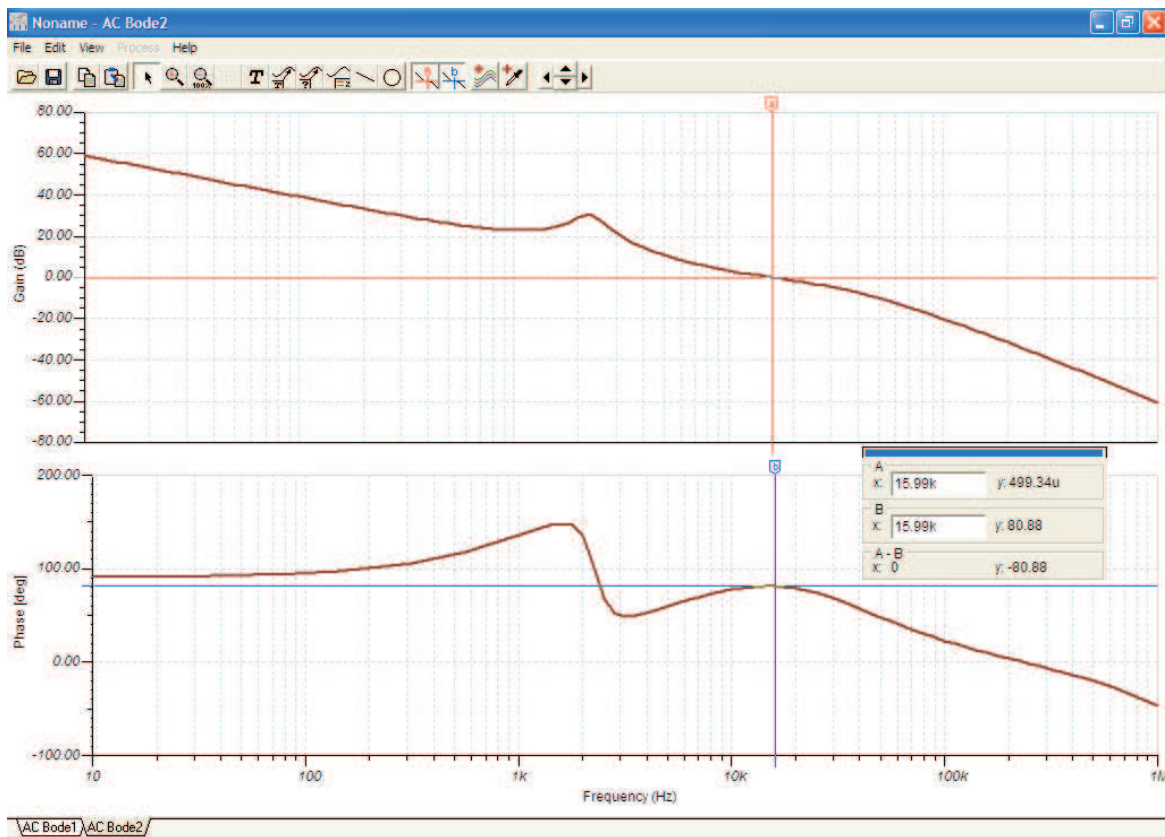

Figure 1. Calculating Phase Margin From a Frequency Response Plot
Phase margin (PM) is a measure of relative stability, in degrees, that indicates the likelihood of a closed-loop control system to oscillate when given a disturbance such as a step function. For systems with a negative angle phase response, the PM is the difference between -180° (due to the inverting nature of most amplifiers) and the phase angle of the frequency response at the same frequency where the magnitude response is 1 or 0 db. For systems with a positive phase response, the phase margin is merely the phase itself at the frequency where the magnitude response is 1 or 0 db. A positive PM technically yields a *stable system* whereas a negative PM yields an unstable system. However, a system with a 3° PM, for example, is not necessarily stable because practical factors make such a small degree of margin unreliable. Thus, a PM of about 45° is considered generally acceptable, but this can vary based on the designer's preference. This classic method of finding the phase margin can be observed in Figure 1.
As can be seen in the plot of Figure 1, an AC response, (Magnitude on top and Phase underneath), is given. The Magnitude Response plot is shown to be 0 db at 15.99 kHz. The phase at 15.99 kHz is 80.88°. Thus, the phase margin of this system is 80.88°.